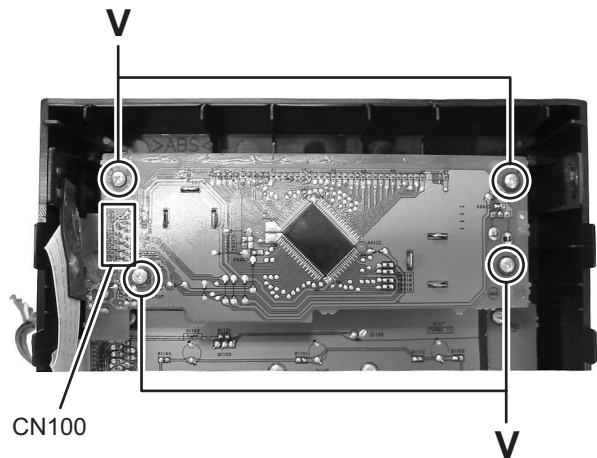

Fig.21
3.1.16 Removing the FL board (Fig.21)